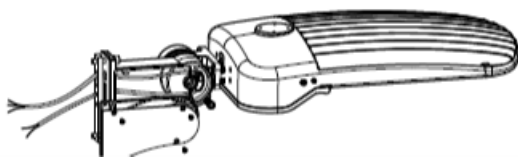

Figure 5
2. Install and secure the bracket half to the fixture with the screws provided. (Figure 5).
3. Remove the screws on other's half bracket's side and set aside. Remove the cover plate and set aside. (Figure 5).